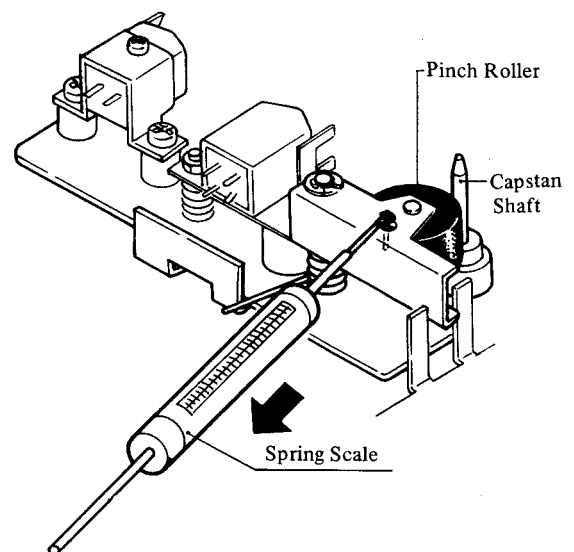

Fig. 6-2 Pinch Roller Pressure
1. Attach a spring scale to the pinch roller assembly as shown in Fig. 6-2.